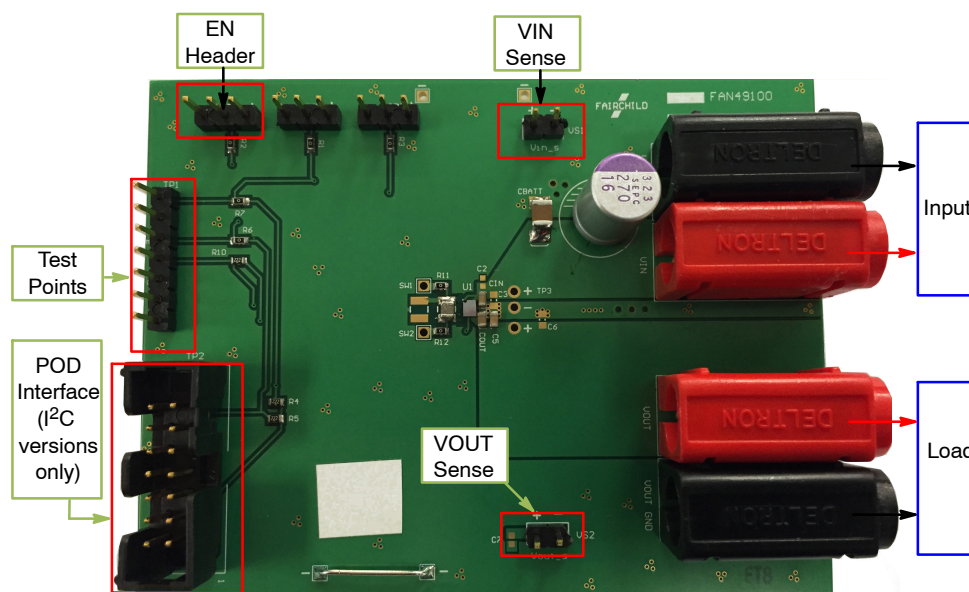

Figure 1. Evaluation Board Connection Diagram
1. Connect input power supply (3.6 V typical with 2.5 V–5.5 V range) between banana jacks VIN and GND as shown in Figure 1 (labeled Input).
5. Connect the external load between banana jacks VOUT and GND as shown in Figure 1 (labeled Load).